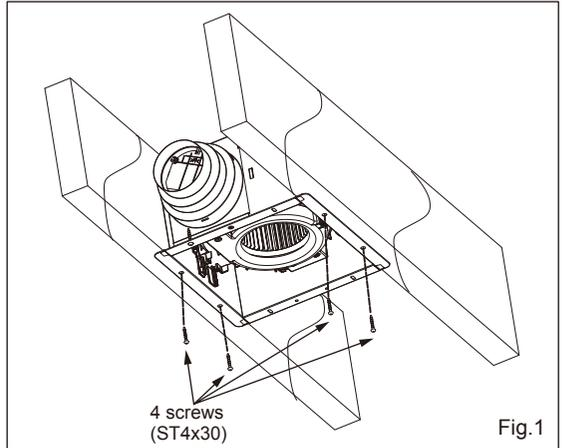

Fig.1
- △ A If the spacing L is 12 inches (305 mm) on joists, please follow the installation step as (Fig.1). Secure 4 screws (ST4X30) at flange of frame to the joists. Then follow steps 6 to 9 of installation (page 6-8) to complete the installation.